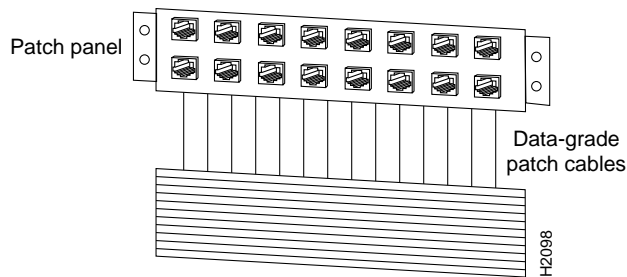

Figure 4-9 Cabling from Patch Panel to Punch-Down Block
Step 2 Connect the patch panel to the punch-down block. (See Figure 4-9.)